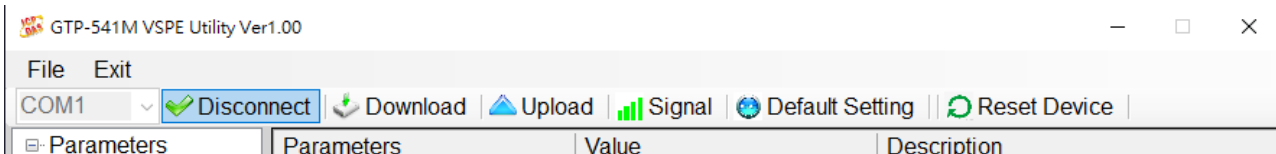

Figure 10.8.2.9
8. Click **System** to set the following parameters, as shown in Figure 10.8.2.10